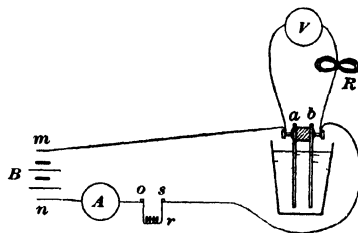

FIG 72
**III (a). The storage battery.†** Arrange a simple cell in the manner shown in Fig 72, *a* and *b* being the copper and the zinc strip to which are connected the terminals of an improvised voltmeter consisting of the 1000-ohm resistance coil *R* and the galvanoscope *V*, with the compass beneath its high-resistance coil. *A* is an improvised ammeter consisting of another galvanoscope with the compass beneath the 25-turn coil of coarse wire, *r* is a resistance of about 100 ohms (use for it 4 m. of No 36 German-silver wire, wound on a spool of insulated wire or solder on the frame of Fig 63 if bare wire), *B* is a battery of two dry cells connected in series but *not* joined, at first, to the terminals *m* and *n* of the cell circuit. Move the compass of *V* until the deflection is  $8^\circ$  or  $10^\circ$ . This amount of deflection then represents the E M F of a copper-zinc sulphuric acid cell (approximately 1 volt).